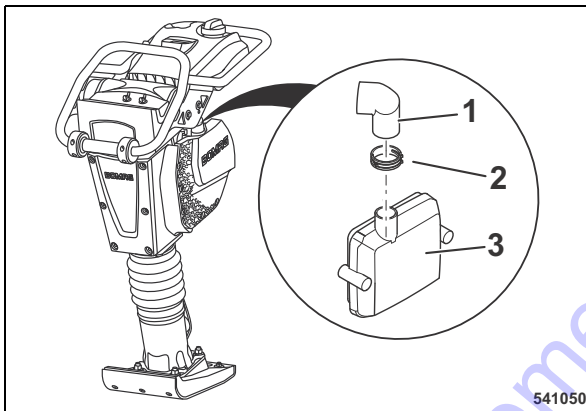

Fig. 45
- Loosen hose clamp (2) (Fig. 45) and pull the air supply hose (1) off the air filter housing (3).